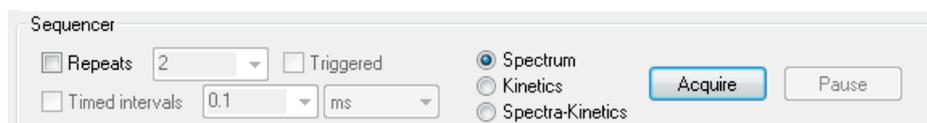

Figure 2.53: the Sequencer panel for steady state fluorescence emission
2) Now ensure that **Spectrum** mode is selected on the **Sequencer** panel (Figure 2.53)